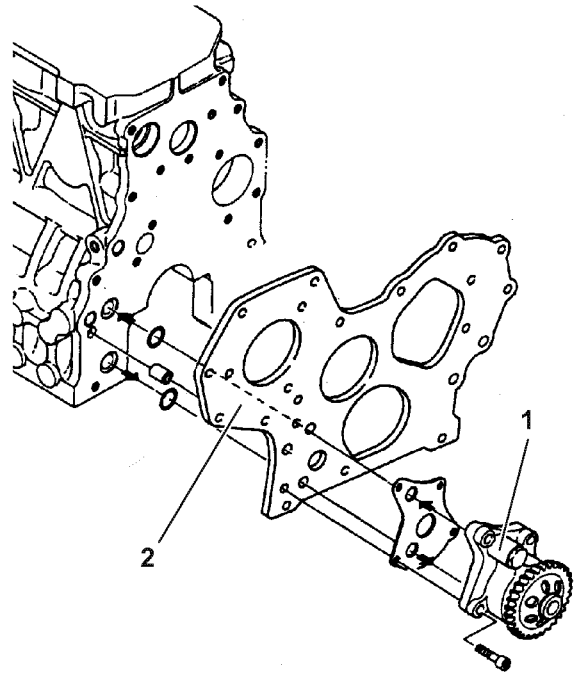

Figure 9-16
2. Remove the lubricating oil pump assembly mounting bolts. Remove the lubricating oil pump assembly (1, **Figure 9-16**) from the gear case flange (2, **Figure 9-16**).